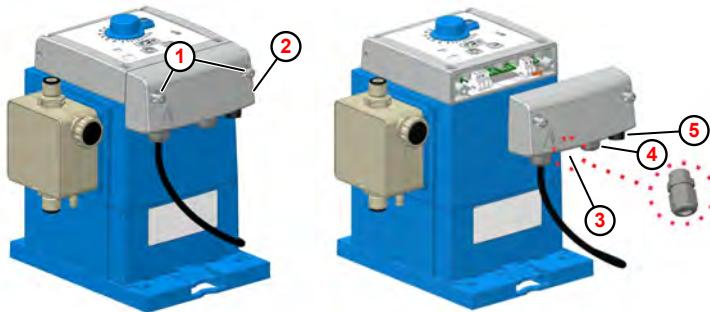

Fig. 11: Electrical installation 'EcoUp'
① Housing screw
④ Cable gland for pulse or enable input
② Terminal cover
⑤ T-connector for level input
③ Cable gland for metering volumes or alarm output
(Fig. 11 , ②)
1. ➔ Loosen the two housing screws (Fig. 11 , ①). The screws are secured against falling out.
2. ➔ Remove the terminal cover ② .
3. ➔ To connect a metering volume or alarm output, mount the supplied M12x1.5 cable gland in the appropriate place ③ , run the cable, tighten the screw connection and the connect cable wires according to the terminal diagram.
4. ➔ To connect to the pulse input or enable input, pass the cable through the cable union ④ tighten the threaded union and connect the cable wires according to the terminal diagram.
5. ➔ The connection for the level input must be connected to the socket ⑤ provided for this purpose.
6. ➔ After all installation work has been completed, fit the terminal cover ② and tighten the fixing screws ① .
The terminals can be accessed after removing the terminal cover (Fig. 11, ②).